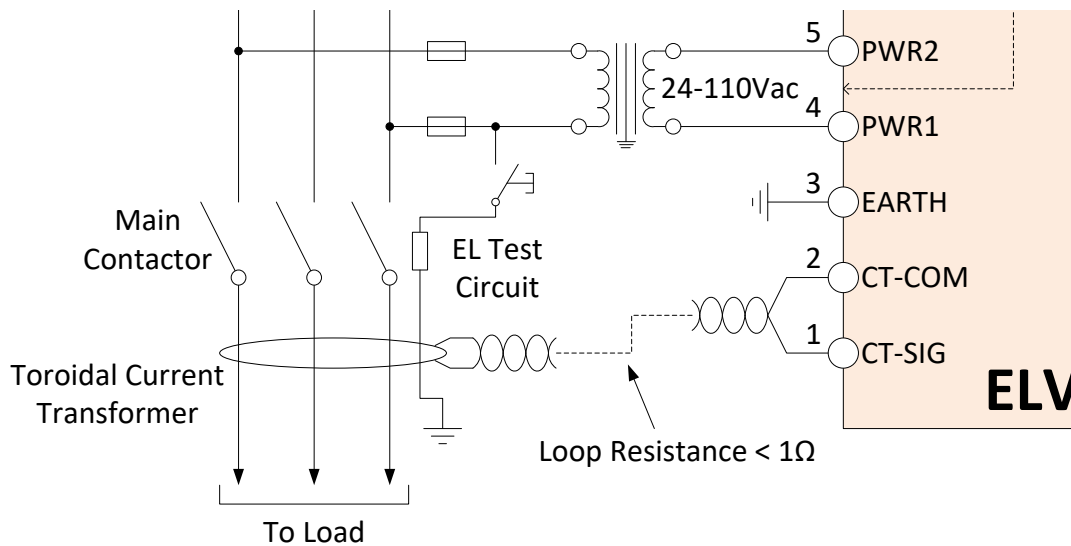

Figure 5.1: Earth Leakage Test Circuit
Inject a test current at 120 % of the trip level setting through the toroid, as shown in Figure 5.1. Verify that the ELV Relay trips as expected.
- Inject a test current at 120 % of the trip level setting through the toroid, as shown in Figure 5.1. Verify that the ELV Relay trips as expected